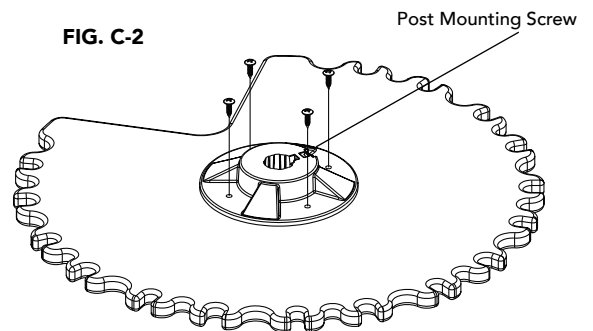

FIG. C-1
Install the nut and screw to the arrester hub (See Figure C-1) before attaching to the tray. Attach the arrester hub to the bottom of the arrester tray as shown using (4) 8 x 5/8" truss head screws in the pre-drilled hole locations.